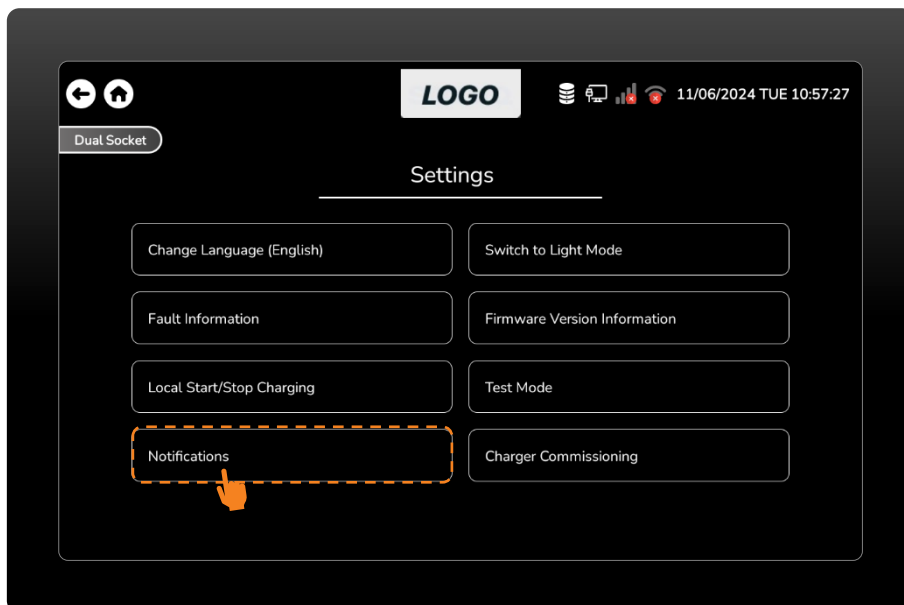

Figure 14 Press the Notifications.
- Press the "Notification" option. (Figure 14)